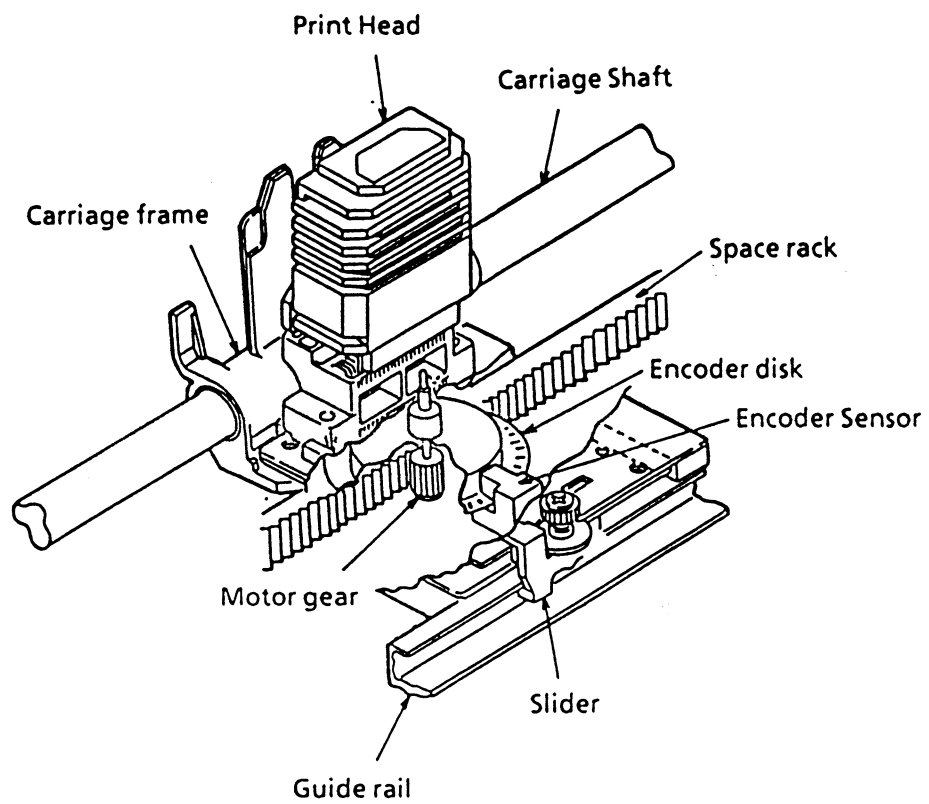

Figure 3-4
3.2.2 Spacing operation (See Figure 3-4)